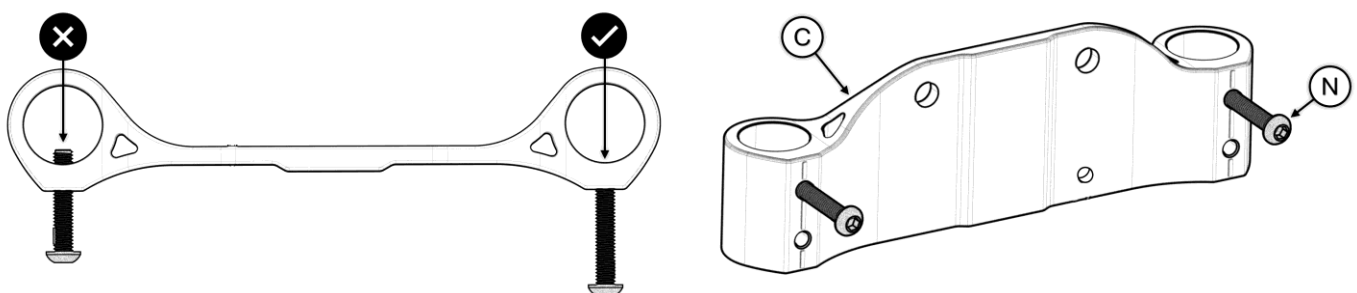

FIGURE 8
8. Partially thread Bolt **L** into **Upper** holes in Bracket **C**, as shown in *FIGURE 8*. Do not thread too far – bolt should not block assembly of legs.